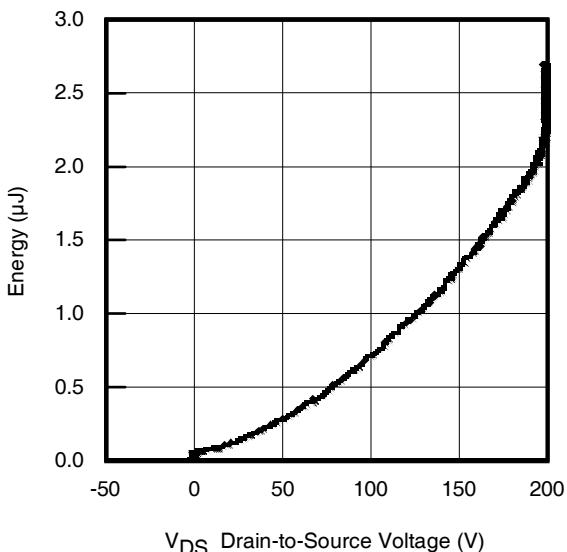

Fig 11. Typical C_{oss} Stored Energy
| $C_{oss \text{ eff. (ER)}}$ | Effective Output Capacitance (Energy Related) ⑥ | — | 113 | — | | $V_{GS} = 0V, V_{DS} = 0V$ to $160V$ ⑥ (See Fig.11) |